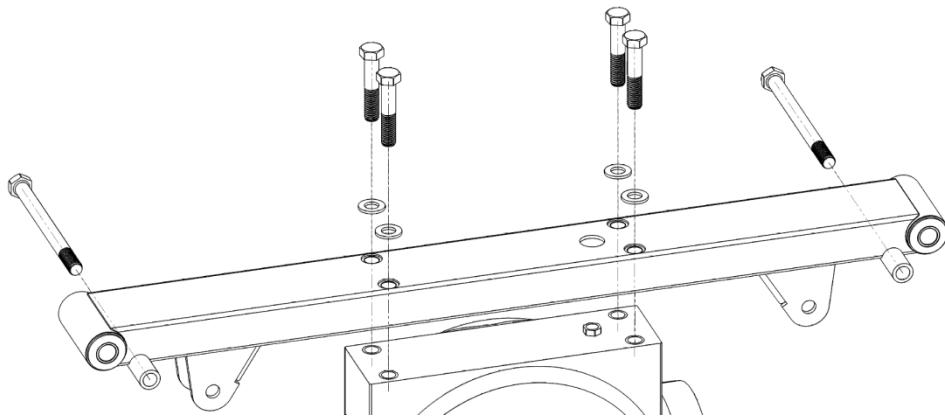

Figure 2. Install the cross member (make sure the vent hole is above the vent), and slip the upper shock bolts in place for now
- 4) Bolt the top crossmember to the top of housing with the upper link mounts facing down towards the ground, and the vent hole on the right (passenger) side as shown in Figure 2. Attach using QTY=4, $\frac{1}{2}$ " X